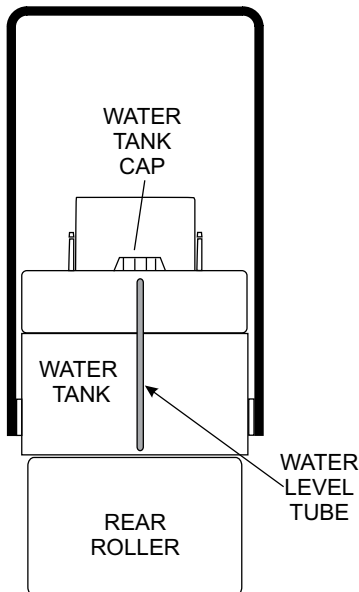

Figure 15. Water Tank
2. The amount of water inside the water tank can be visually inspected by reading the water tube (Figure 15) that runs vertically along the water tank at the rear of the roller. This tube indicates the amount of water inside the water tank. Total tank capacity is 40 gallons (181 liters.)